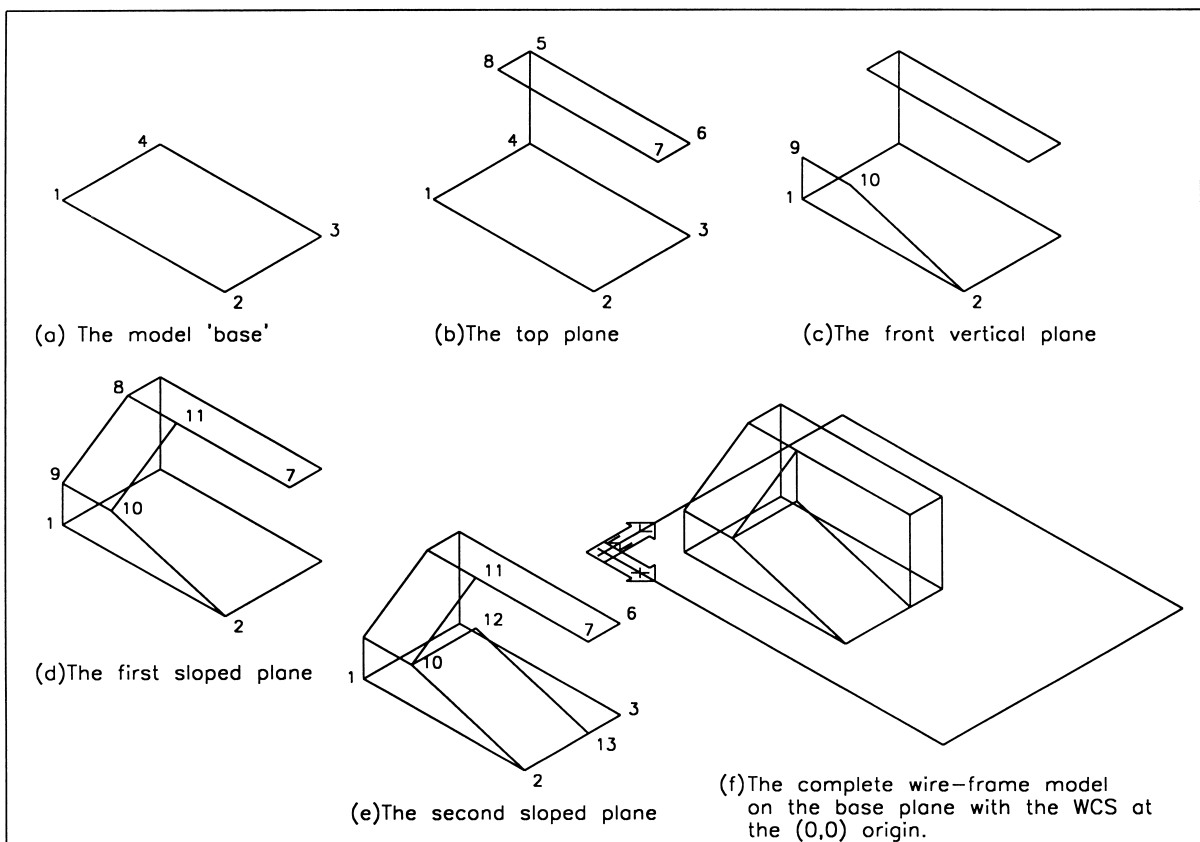

Figure 4.1 Construction of the wire-frame model 3DWFV.
- Ensure layer MODEL is current and refer to Fig. 4.1